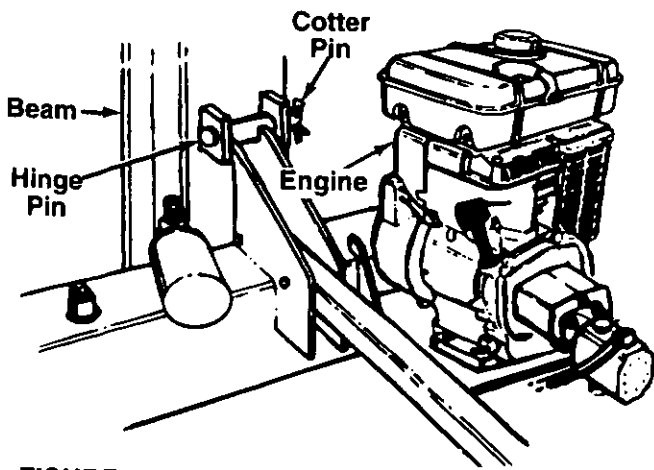

FIGURE 4.
- Remove the cotter pin and the hinge pin, located on top of the reservoir tank assembly. Move the reservoir tank assembly in position against the beam. See figure 4. Line up holes by lifting hitch end of assembly.